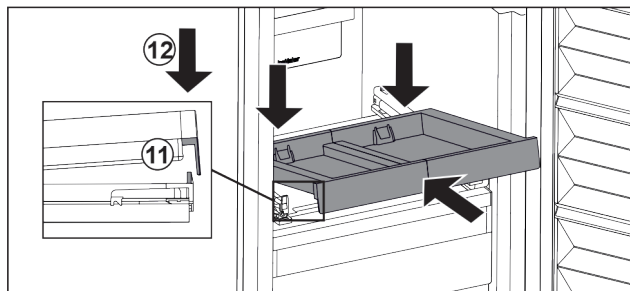

Fig. 121
- ▶ Slide in at an angle. Make sure that the stop is behind the lug on both sides. Fig. 121 (11)
- ▶ Lower the pull-out board at the front. Fig. 121 (12)